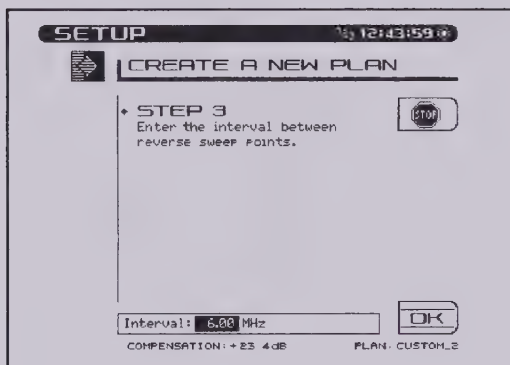

Fig. 14-16 Creating a New Reverse Sweep Plan, Step 3
3. Enter the interval (see Figure 14-16). This interval determines the spacing between sweep points. Use the numeric keys followed by the **ENTER** key. Then press the **OK** soft key to continue.